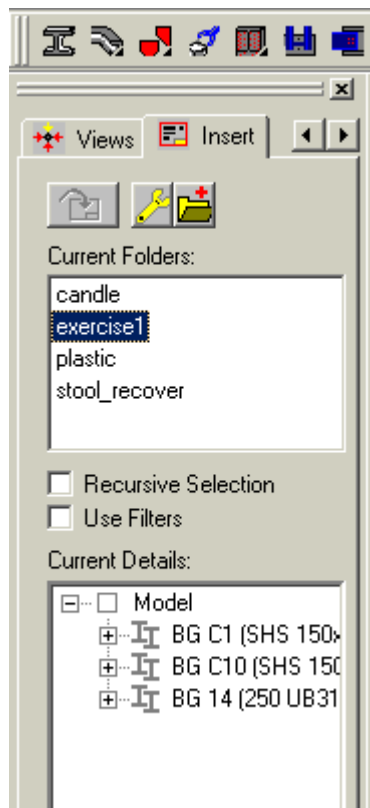

Fig. 21
15. Next click on the insert TAB and the window should change to the same as in Fig. 21. If you then click on the model name that you are using, that should now reside in the “*Current Folders:*” similar to exercise1 above, all parts that you have attached detail styles and views to will be listed in “*Current Details*”
22. Next drag the member that you want in the drawing from the “*Current Detail*” window onto the drawing Icon button. Fig. 21 Then as you move your mouse to the right the member block should appear in the drawing frame or border. Click on the drawing where you want this block to be deposited.